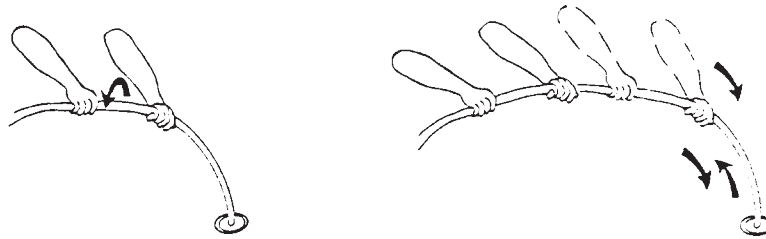

Fig. 8
14. If the water jet hose fails to advance even with the assistance of the pulsator, it may be necessary to pull off additional hose and twist the hose in a corkscrew-like manner (see Fig. 8).